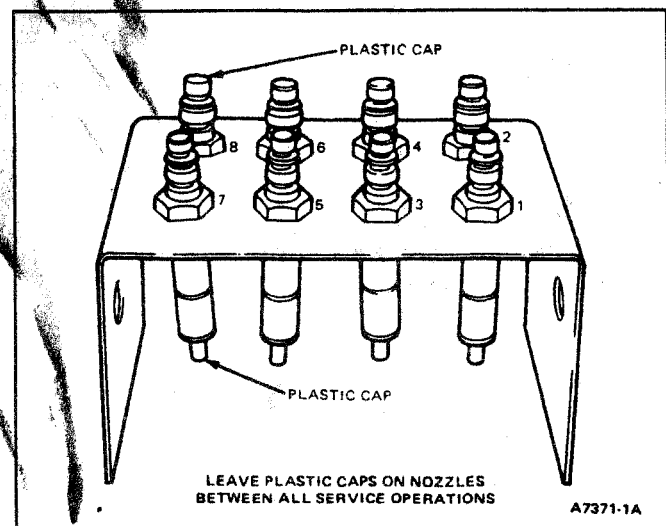

FIG. 54 Nozzle Holding Fixture
4. Place nozzle assemblies in a fabricated holder as they are removed from the heads, (Fig. 54). The holder should be marked with numbers corresponding to the cylinder numbering of the engine. Use of this holder permits replacing nozzles in their respective bores in the cylinder heads.